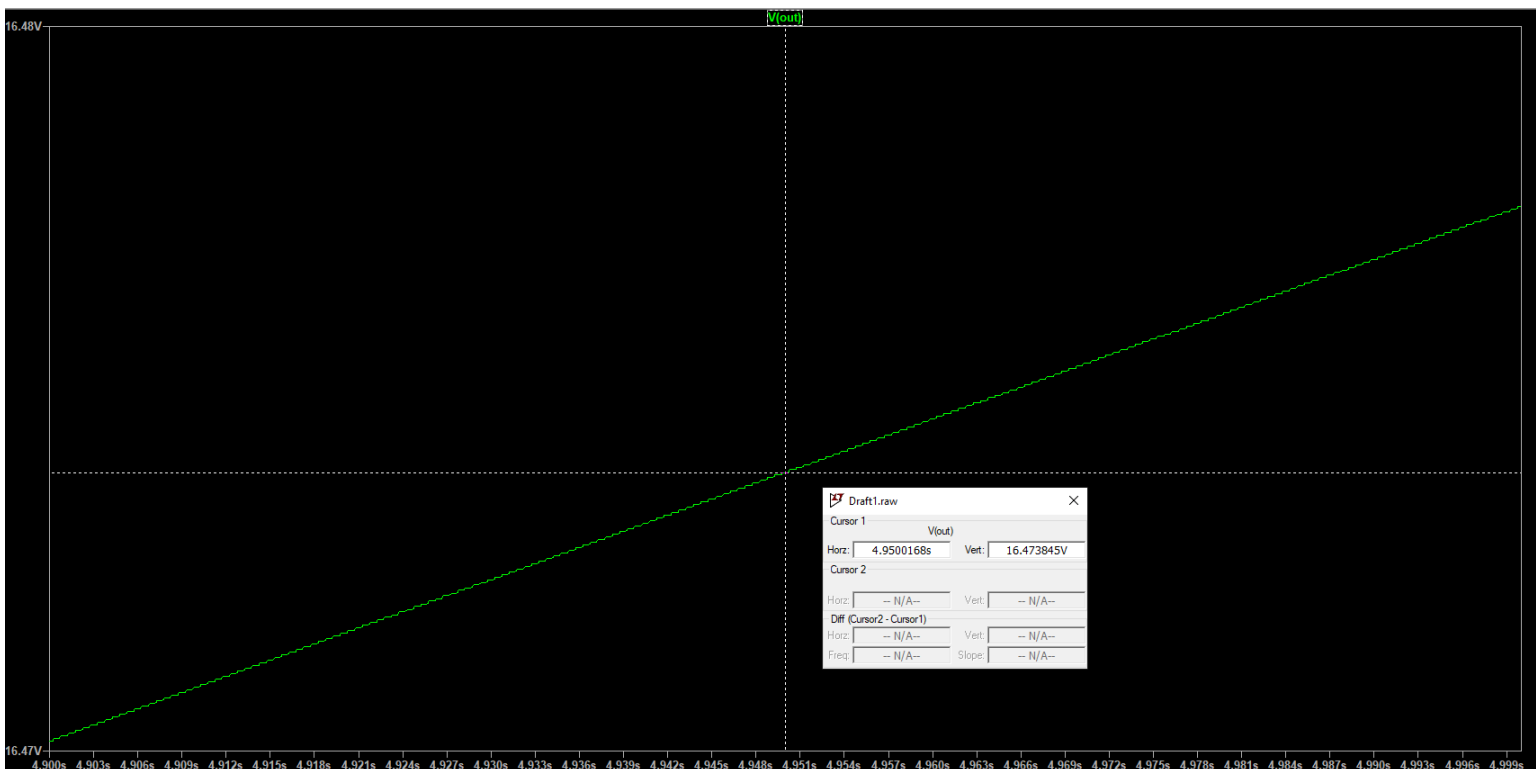

Figure 22: Zoomed Output Without Load
- The figure 22 shows the result at the output before this improvement. In that figure, at the time 4.95 s we have output of **16.473845 volts**.